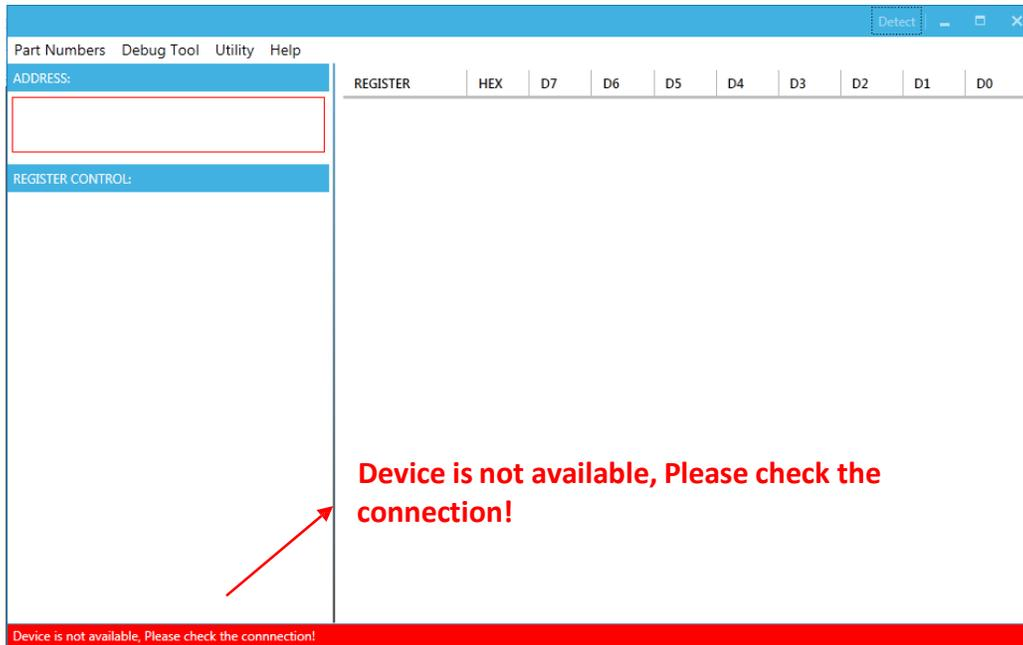

Figure 9: Warning Indicates Unsuccessful Connection – USB I²C Communication Interface Not Connected
- “Device is not available, Please check the connection!” This means that the USB I²C communication interface is not connected (see Figure 9).
The screenshot shows the same software window as Figure 9, but now it displays a table of register values. The 'ADDRESS:' field contains '60'. The 'REGISTER CONTROL:' section has 'ILIM' and 'REGISTER MAP' selected. The table on the right contains the following data: